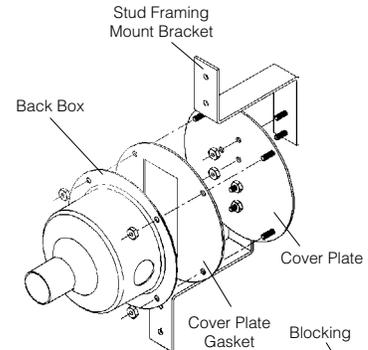

Fig. 1
1. Install the (2) stud framing mounting brackets provided as shown in Fig. 1.